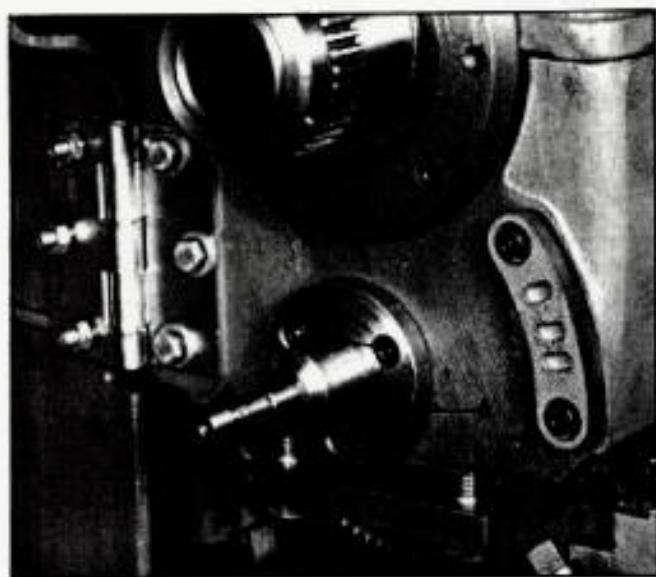

Fig. 35.
8. Remove shoulder bushing (A) Fig. 35, by removing three screws (B).